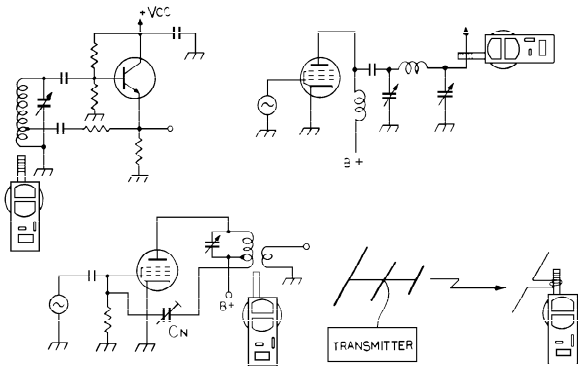

Fig. 2 Absorption wavemeter applications.
6. Typical applications are shown in Fig. 2.